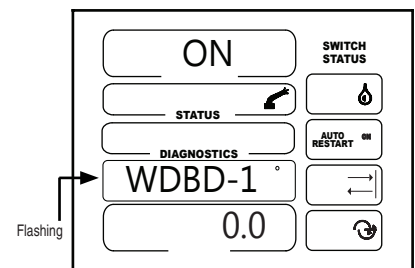

Figure 15-3
- If the sector was never programmed and there are no lower numbered wide boundaries programmed then the on angle will be 0.0°. See figure 15-3.